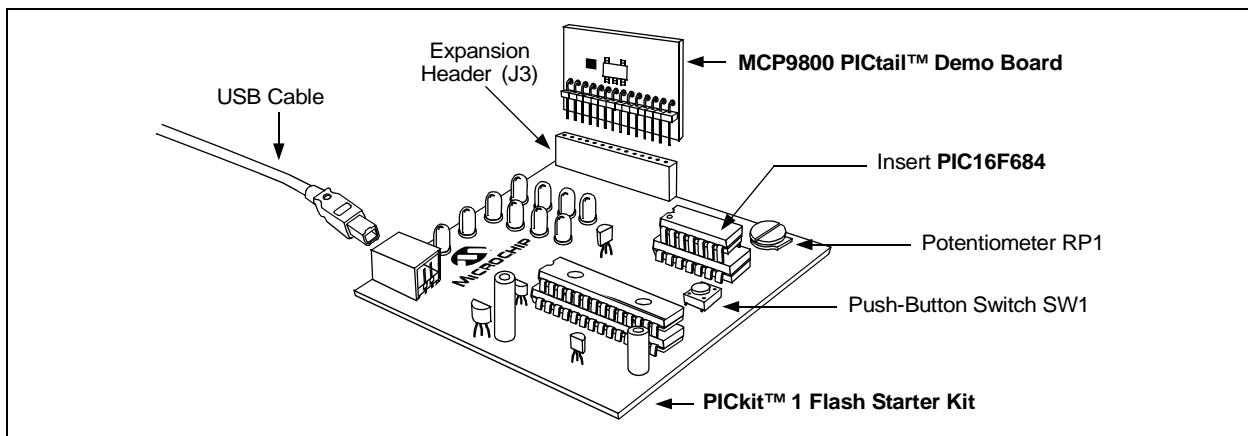
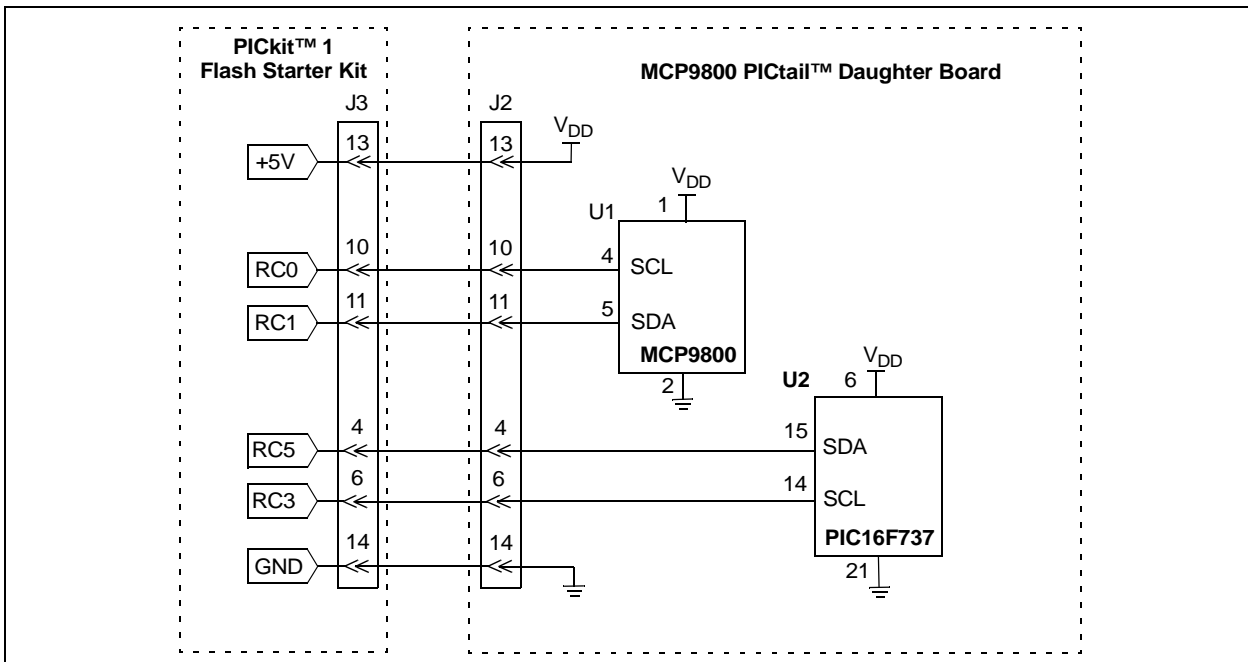

FIGURE 2-2: MCP9800 PICtail™ Daughter Board and PICkit™1 Flash Starter Kit.
FIGURE 2-3: Simplified MCP9800 PICtail™ Daughter Board Schematic.
1. Connect the J2 header of the MCP9800 Thermal Sensor PICtail Demo Board to the J3 connector on the PICkit™ 1 Flash Starter Kit. Refer to Figure 2-2 for proper orientation of the MCP9800 Thermal Sensor PICtail Demo Board and Figure 2-3 for a simplified board schematic.